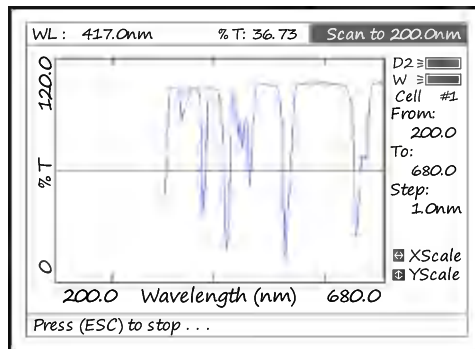
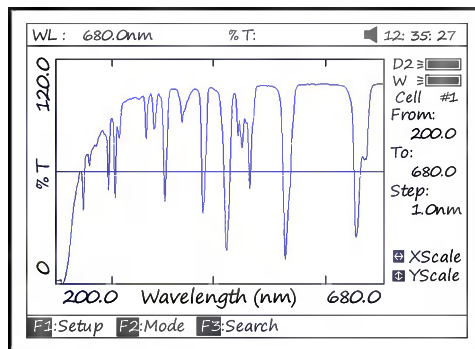

Fig 45
Fig 46
- Put the sample cuvette into Main Light Path, press **【START】** to scan the sample(Fig 45) **【ESC/STOP】** to stop scanning. When scan has finished the beeper beeps 3 times (Fig 46).
Note: The report always is printed in Fig 46